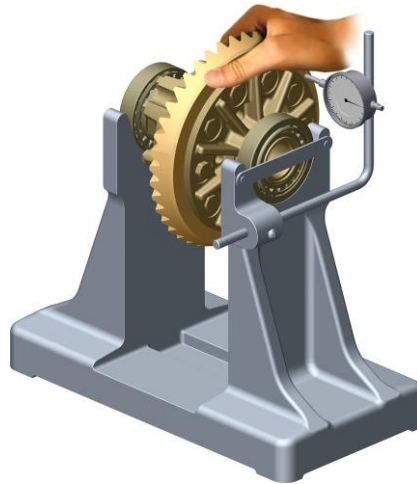

Fig. 3.81. Driven gear tail runout check
- to check the driven gear tail runout, install the differential to the fixture (Fig. 3.81); runout shall not exceed 0.06mm. When it exceeds this value, remove the driven gear, turn by half a turn and reinstall to the spider, then recheck runout;